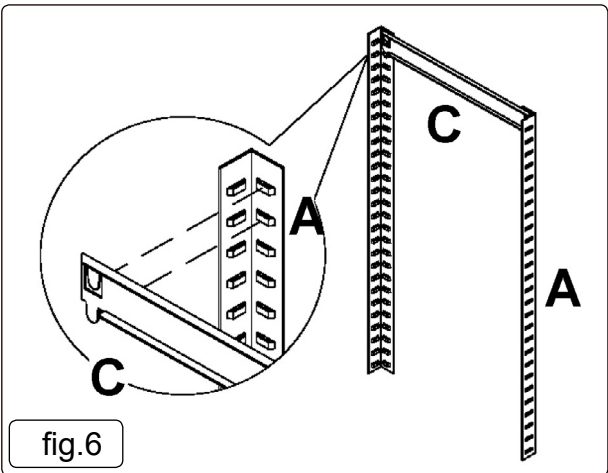

fig.6
- 5.4. See Fig.6. Now make up an upper end frame by connecting two angle posts together at the top with a short step beam (C). Tap the beam at either end to ensure that the tabs are properly seated in the slots. Make up a second upper end frame using the remaining two angle posts and a short step beam.